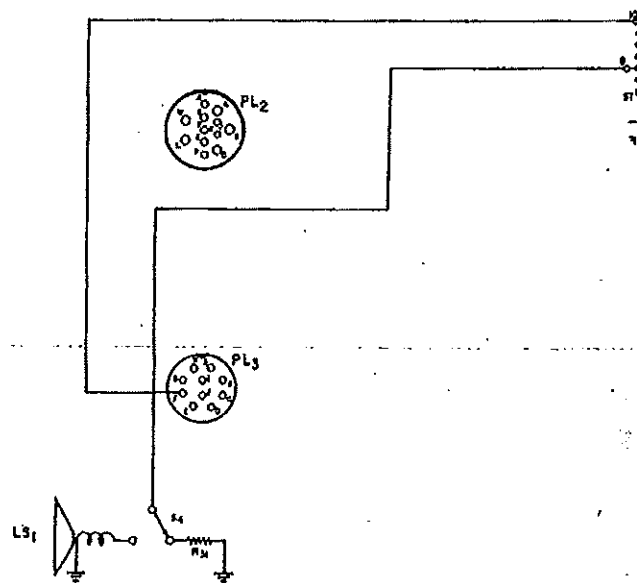

Fig. 19
- (f) In BC-669-B, and BC-669-C transformer T_9 has a 100 ohm secondary which is connected to Headset HS-30-(*). A 6 ohm tap is provided on T_9 secondary and is connected to switch S_4 . (See Fig. 19).
- (1) In position 1 meter M_2 is connected in series with the high voltage plate supply circuit of modulator tubes V_{12} , V_{13} , V_{14} and V_{15} , with resistor R_{03} as a shunt, for indicating modulator plate current.
- (2) In position 2 this meter is connected in series with the secondary of modulation transformer T_{12} in the high voltage plate supply circuit of power amplifier tubes V_8 and V_9 , with resistor R_{64} as a shunt, for indicating power amplifier plate current.
- (3) In position 3 meter M_2 is connected in the control grid circuit of tubes V_8 and V_9 through contact 7 of plug PL_1 and socket SO_1 for indicating power amplifier grid current.
a. *Electrical Circuits*—(See figure 19.) Remote Control Unit RM-21-(*) contains circuits for the control of Power Unit PE-108-(*), switching from transmit to receive, voice modulating the transmitter, and operation of handset or microphone from a remote position.